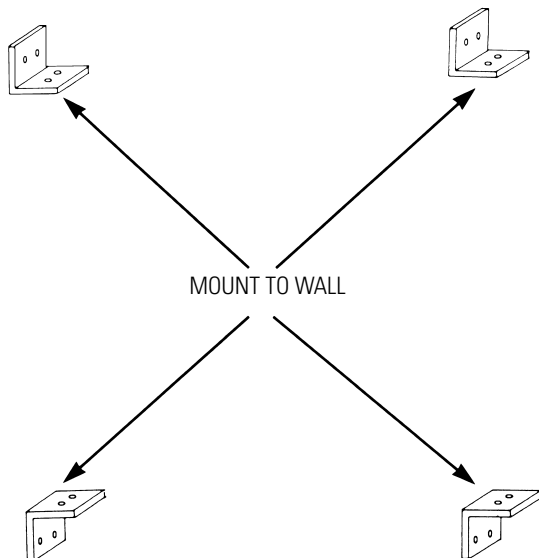

FIGURE 3. BRACKETS
4. Position the assembled screen frame in the desired location on the wall and in the brackets. Remove the mounting brackets from the screen frame and attach to the wall using the appropriate fasteners based on wall construction. See figure 3. Take care in mounting these brackets as these are critical to proper mounting of the screen frame.